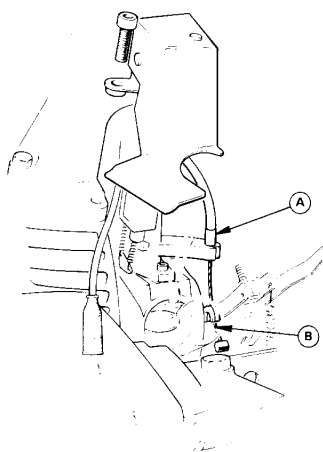

Fig. G5. Removal of the Butterfly Cable.
1. Lift the butterfly cable outer ferrule from the cast bracket on the back of the air bypass body (A) Fig. G5.
3. This will allow the end nipple to be removed from the throttle linkage on the back of the rotor housing (B).